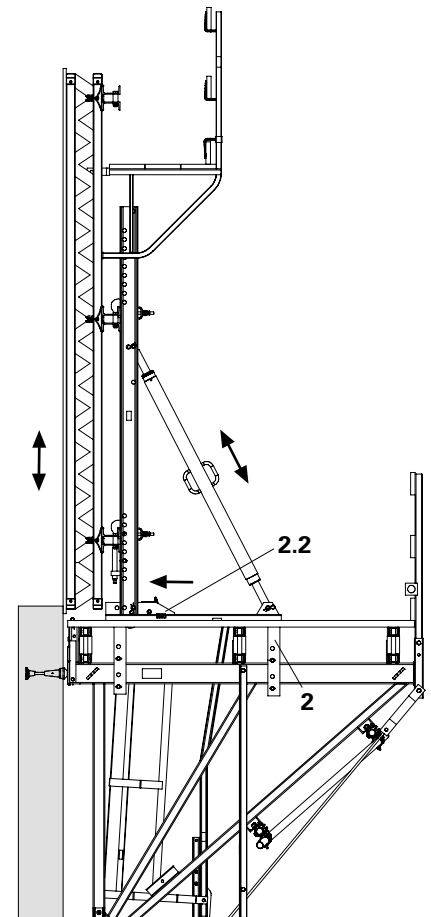

Fig. B2.12
7. Move Carriage (2) with formwork forwards to the wall. Secure Carriage with wedge (2.2).
8. Align formwork. (Fig. B2.12)